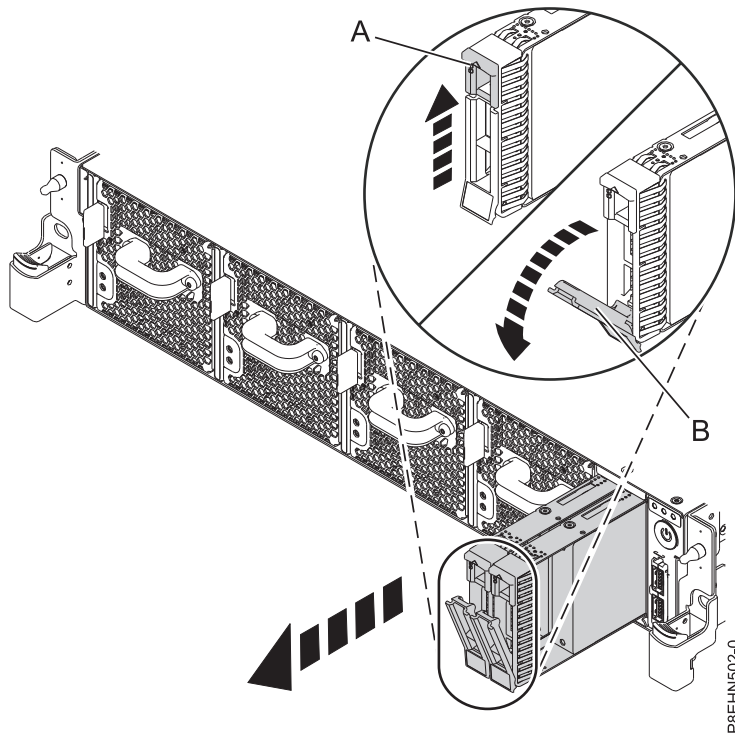

Figure 1. Disk drive lock detail
4. Unlock the drive bay handle (**B**) by pushing the handle release (**A**) up. The handle (**B**) snaps out towards you. If the handle does not snap all the way out, the drive does not slide out of the system. See Figure 1 on page 7.